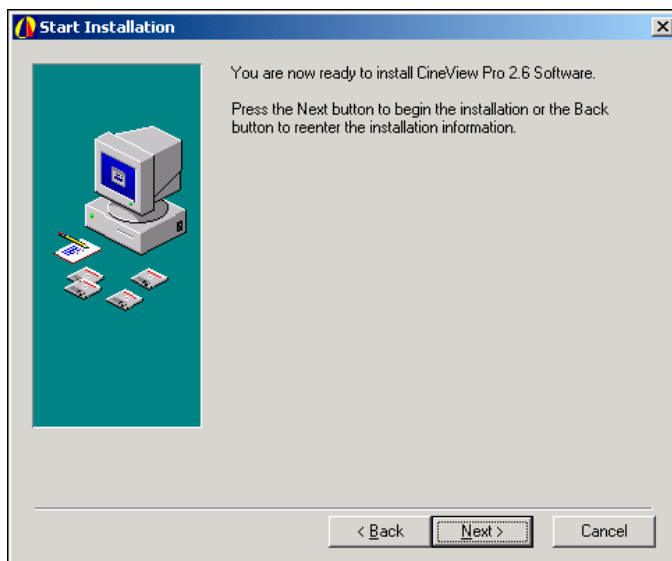

Figure 1-16. Installation Start Screen
- On the “Start Installation” screen (Figure 1-16), click Next.